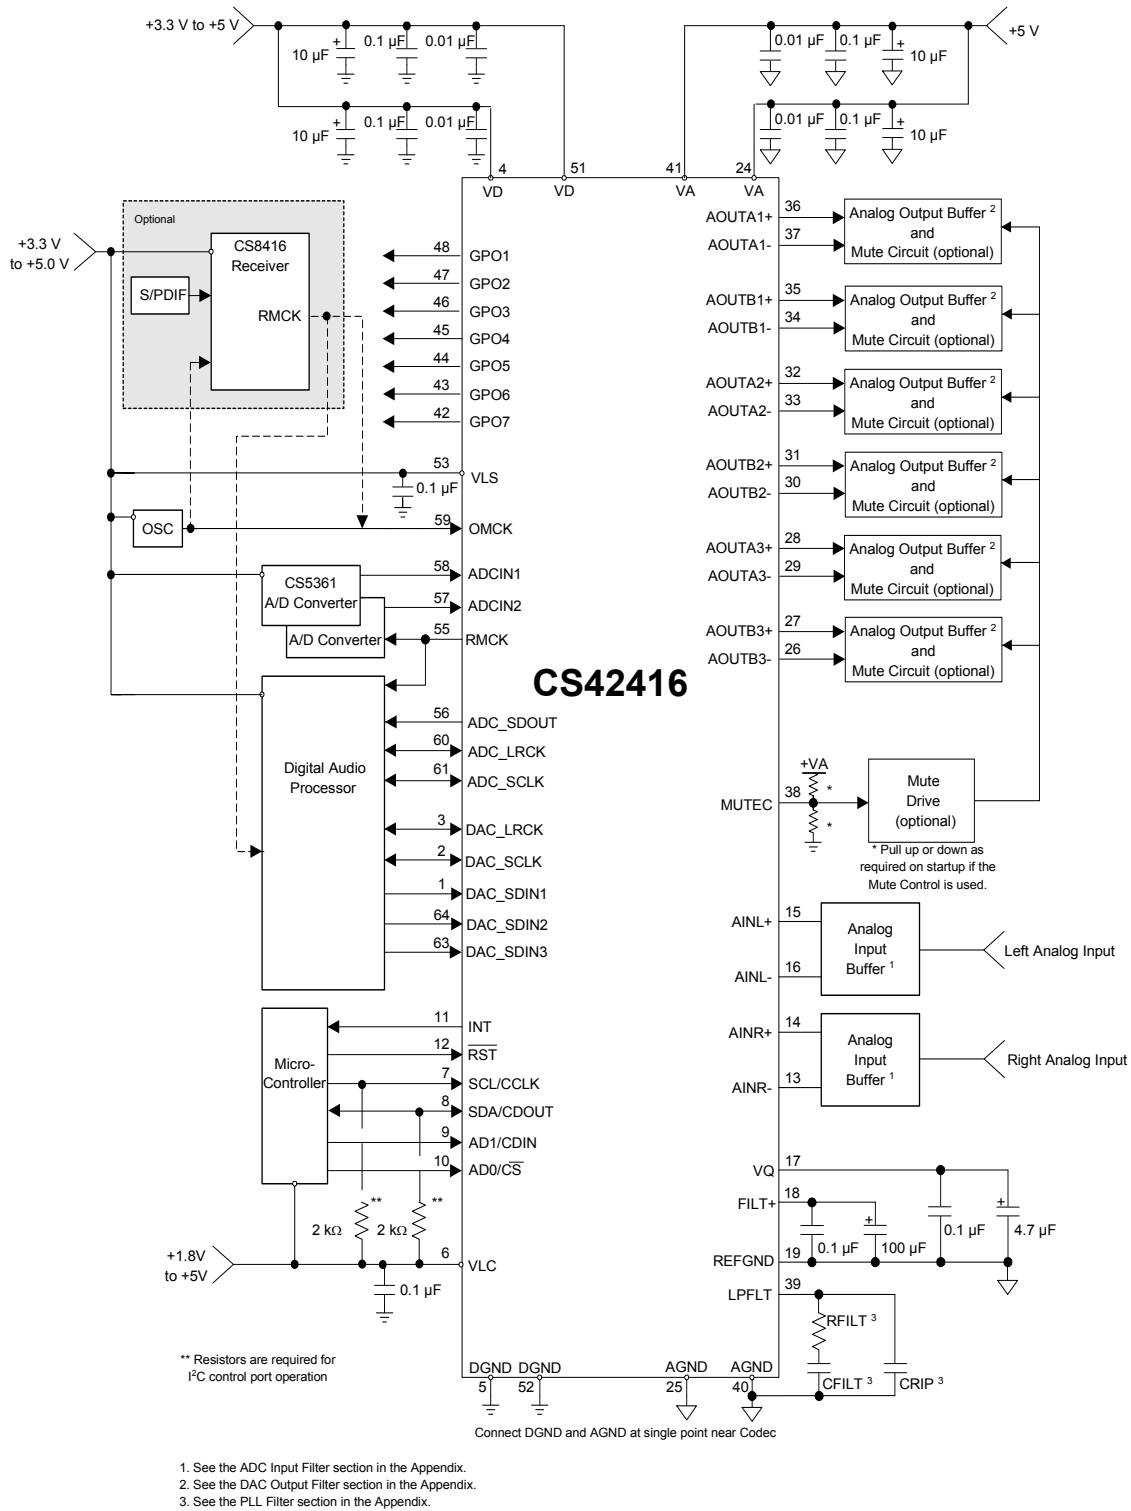
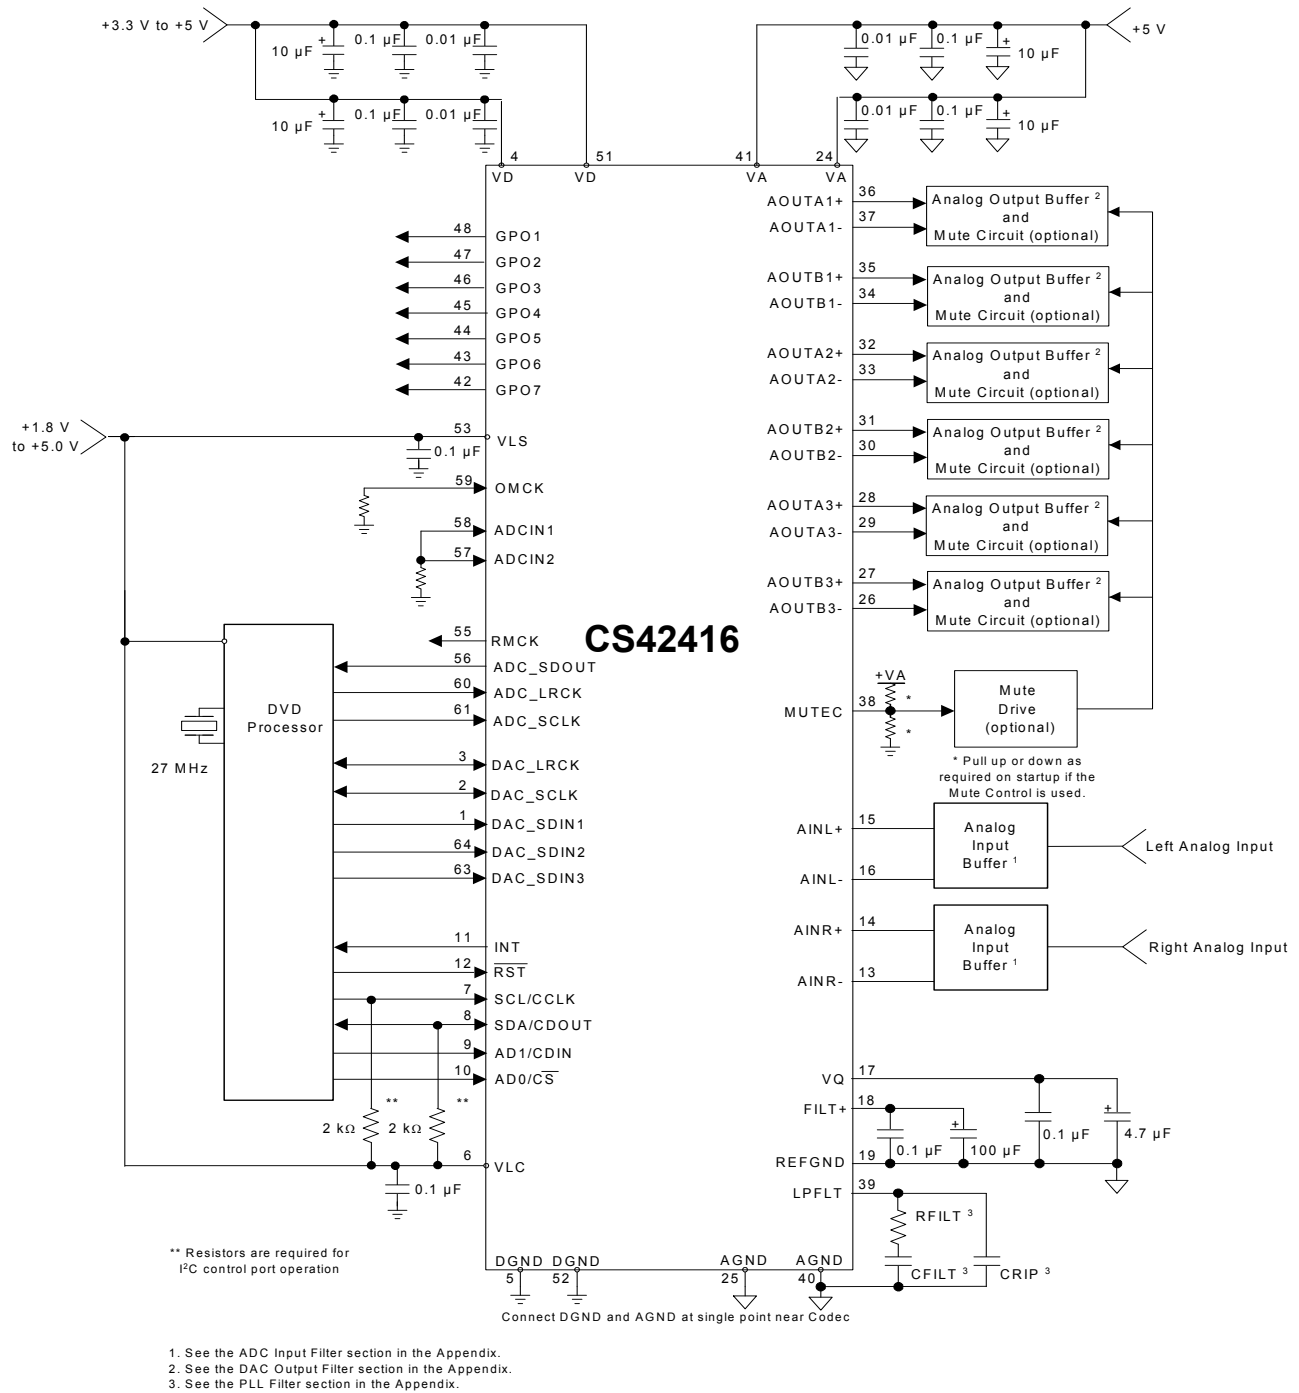

Figure 5. Typical Connection Diagram
Figure 6. Typical Connection Diagram using the PLL
25. Valid with the recommended capacitor values on FILT+ and V_Q as shown in Figure 5.
The CS42416 is a highly integrated mixed-signal 24-bit audio codec comprised of 2 analog-to-digital converters (ADC), implemented using multi-bit delta-sigma techniques, and 6 digital-to-analog converters (DAC). Other functions integrated within the codec include independent digital volume controls for each DAC, digital de-emphasis filters for DAC, digital gain control for ADC channels, ADC high-pass filters, and an on-chip voltage reference. All serial data is transmitted through one configurable serial audio interface for the ADC with enhanced one-line modes of operation, allowing up to 6 channels of serial audio data on one data line. All functions are configured through a serial control port operable in SPI mode or in I²C mode. Figure 5 and Figure 6 show the recommended connections for the CS42416.